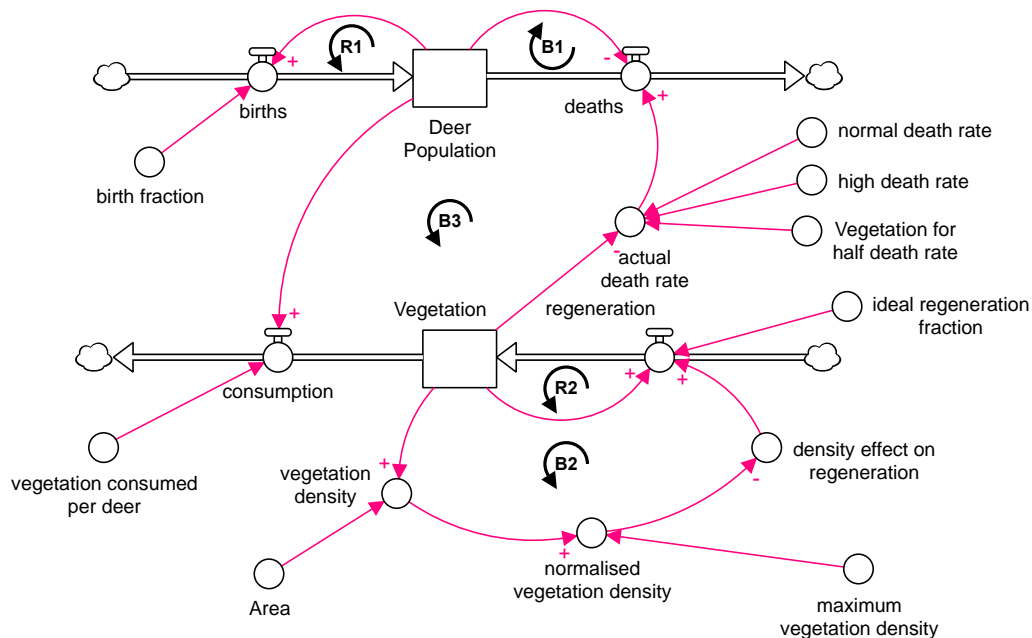
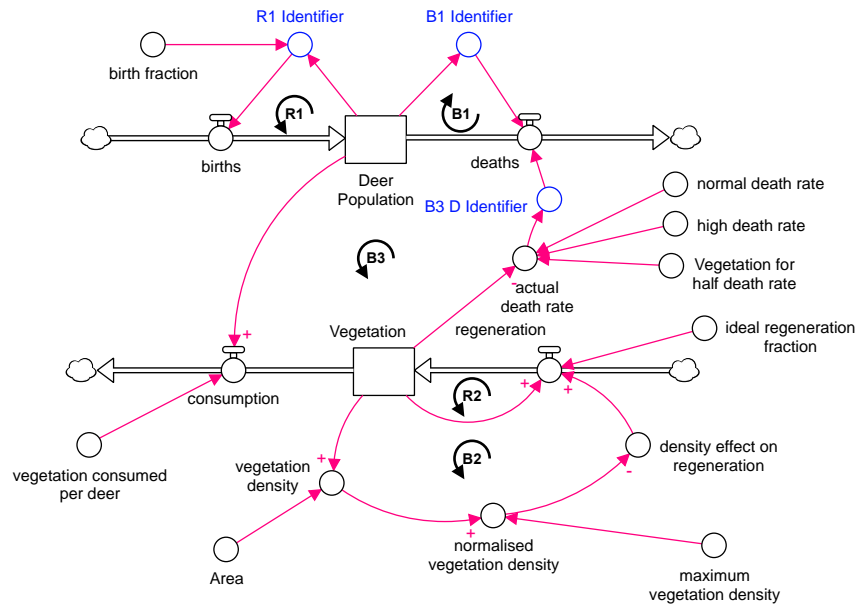

Figure 29: Deer and vegetation, overshoot and collapse model
Figure 30: Overshoot and collapse with loop identifiers on *Deer Population*
The model we will use is an overshoot-and-collapse archetype – in this case a deer population living in a finite area, which places limits on their food supply, *Vegetation*, Figure 29.
- Modify the model in Figure 29 with the three loop identifiers: *R1 Identifier*, *B1 Identifier* and *B3 D Identifier*, Figure 30, moving the connections of the parameter *birth fraction*: